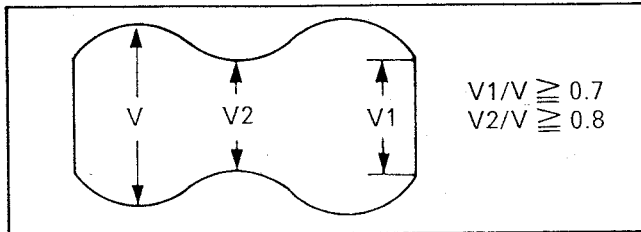

Fig. M13 Spec. of Envelope Figure
9. Turn the Tracking VR and adjust for maximum RF envelope. If the RF envelope does not meet these specs, $V1/V$ 0.7, $V2/V$ 0.8, then repeat steps 1-9 of item 3-2-5. again. (Fig. M13)